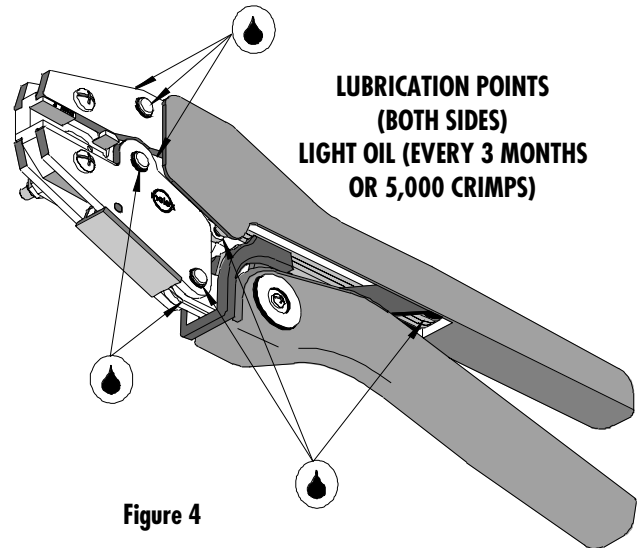

Figure 4
3. Make certain all pins; pivot points and bearing surfaces are protected with a thin coat of high quality machine oil. Do not oil excessively. The 64001-2500 (RHT-2080) was engineered for durability, but like any fine piece of equipment it needs cleaning and lubrication for a maximum service life of trouble-free crimping. A light oil, such as 30 weight automotive oil used at the oil points shown in Figure 4, every 5,000 crimps or 3 months will significantly enhance the tool life and ensure a stable calibration.